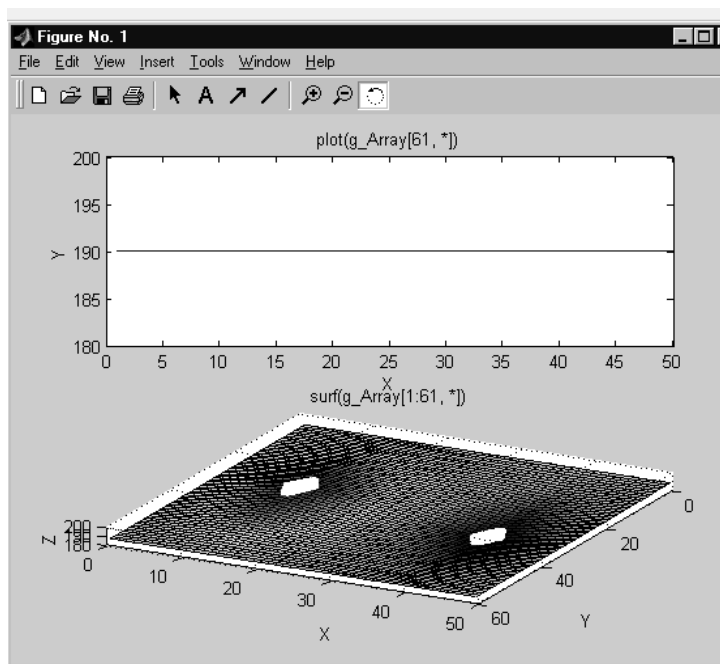

Figure 12.13. Vehicle Radiator temperature rotated 3D graph
16. Turn the plot until it becomes “two dimensional”. Two white spaces will appear; they indicate that the data exceeds the scale of the plot. See Figure 12.13.